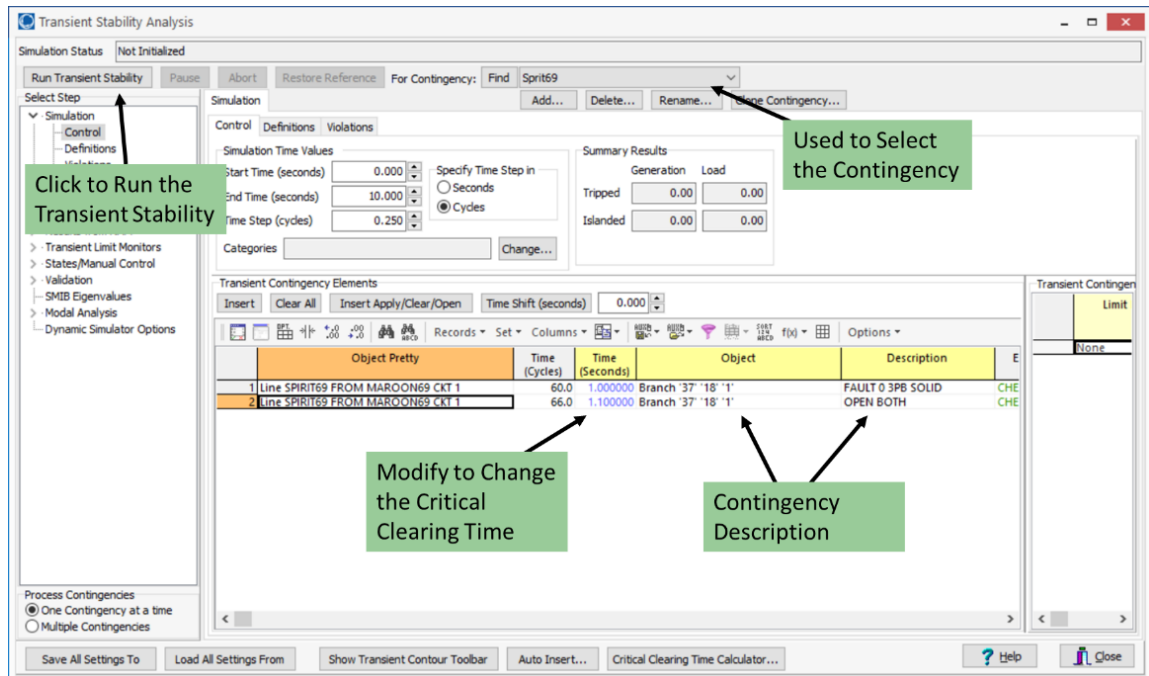

Figure 2: Transient Stability Form
1. Start PowerWorld Simulator. Open the Project\_2 case. The system has been set up to run transient stability with several contingencies predefined for the lab. Select **Add Ons, Transient Stability** to display the Transient Stability form. This add-on will be used throughout the lab for transient stability simulations, as shown in Figure 2.